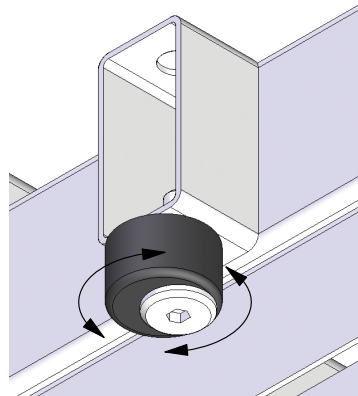

Figure 7
1. Loosen the JC bolt slightly with a 4mm hex wrench. **Figure 7.**